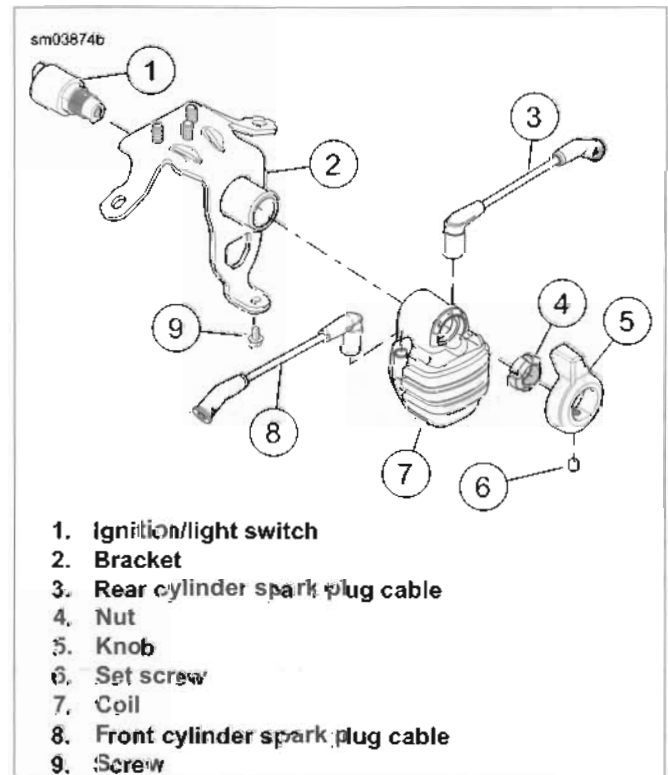

Figure 7-21. Ignition/Light Switch: FXSB
4. See Figure 7-21. Loosen set screw (6) and remove knob (5).
5. Remove nut (4) using IGNITION SWITCH SPANNER WRENCH (Part No. HD-50988).
7. Replace ignition/light switch (1).
9. Clean threads of nut (4). Apply LOCTITE 243 MEDIUM STRENGTH THREADLOCKER AND SEALANT (blue).
10. Install nut (4) using IGNITION SWITCH SPANNER WRENCH (Part No. HD-50988). Tighten nut to 140-160 in-lbs (15.8-18.1 Nm).
11. Install knob (5) and tighten set screw (6).